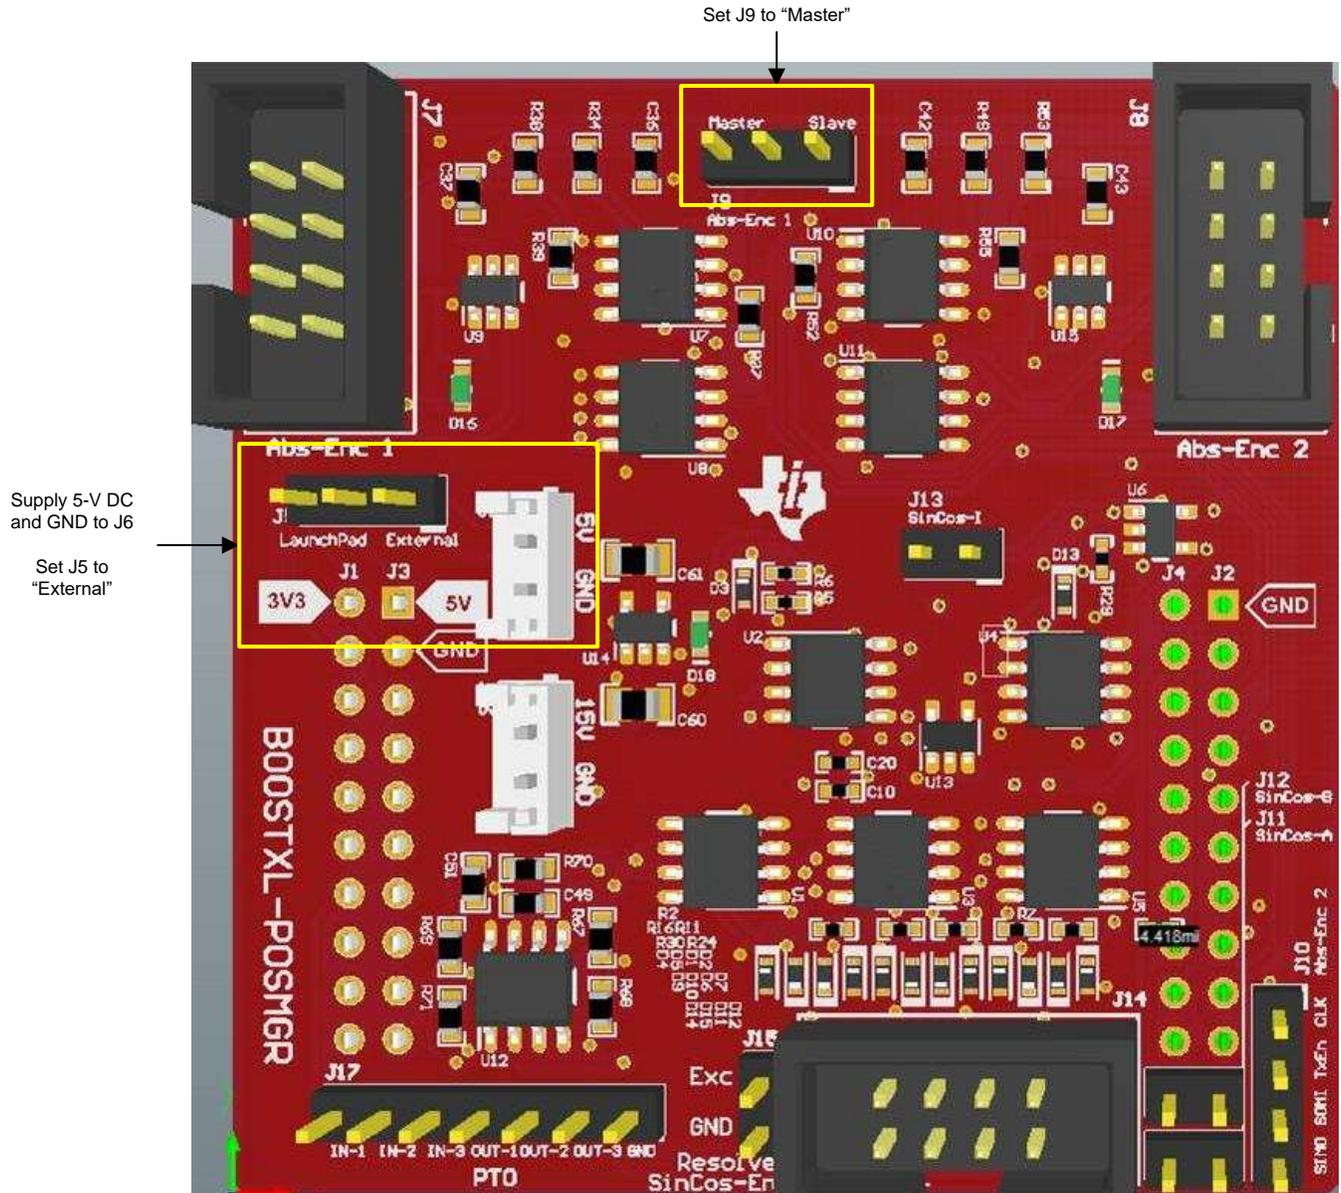

Figure 6. TIDM-1010 Board Jumper Configuration
Figure 6 shows the jumper configuration for the TIDM-1010/BOOSTXL-POSMGR board.
⁽¹⁾ This configuration requires users provide an external power source to J6, as shown in 図 6.
5. Supply 5-V DC and GND to J6, as shown in Fig 6. The board should now look like Fig 12. LED D18 should be lit, which shows that the board has power.